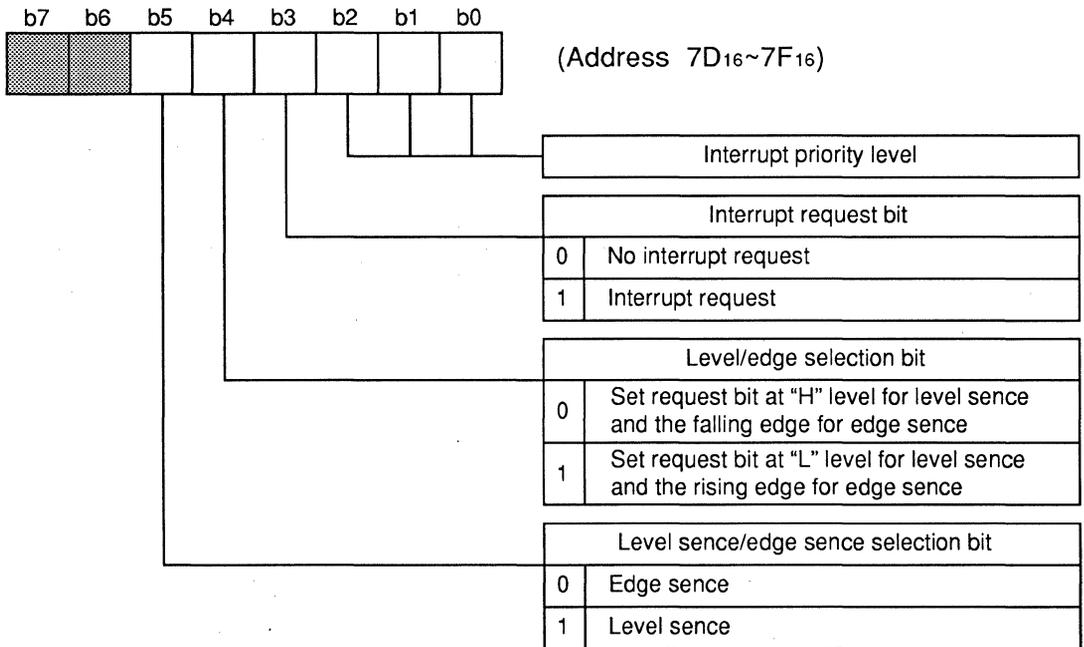

Fig.2.6.3 Interrupt Control Register Structure
The enabling and disabling of interrupts are controlled by the interrupt request bit, interrupt priority level, processor interrupt priority (IPL), and interrupt disable flag (I) (excluding some software interrupts). The interrupt disable flag and the processor interrupt priority level are assigned to the processor status register (PS). The interrupt request bit and the interrupt priority level are assigned to the interrupt control register of the respective interrupt. Figure 2.6.3 shows the structure of the interrupt control register. However, there is no interrupt control register for non-maskable interrupts such as zero divide interrupt, BRK instruction interrupt, and watchdog timer interrupt.